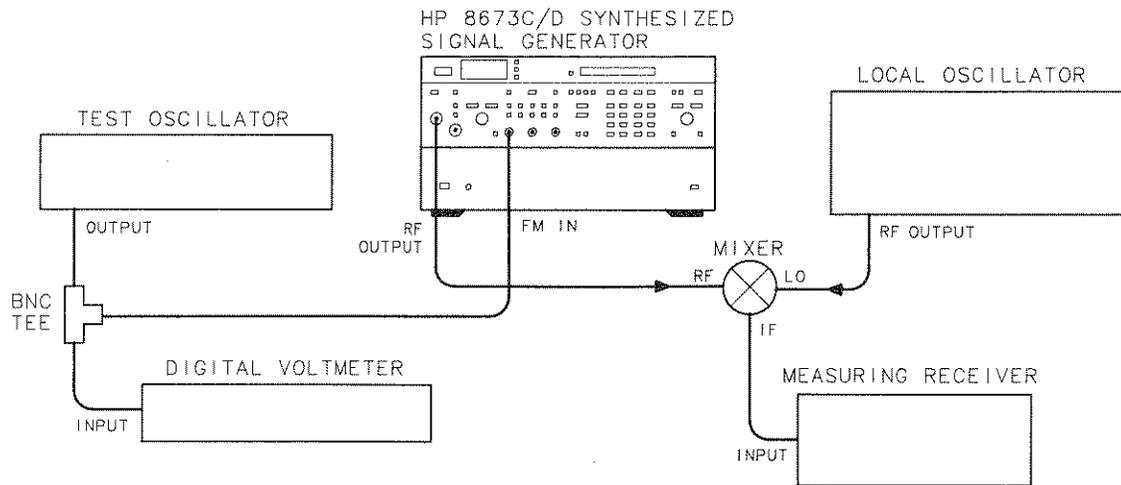

Figure 4-9. External FM Accuracy and Meter Accuracy Test Setup
1. Connect equipment as shown in Figure 4-9.